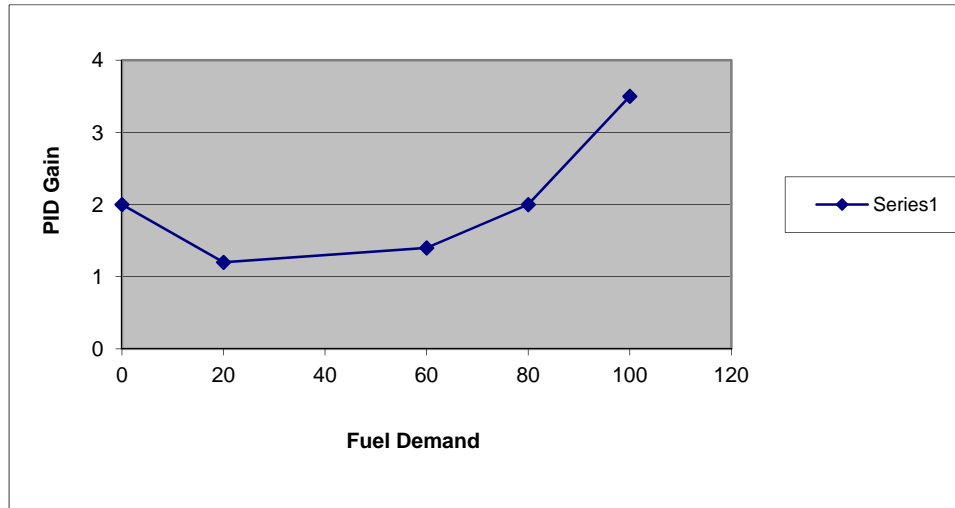

Figure 3-7. Linearized Gain Plot
Note that in both charts the valve position falls on a curve. The menu does not permit the construction of a curve. However, with four slope segments (5 break points) available, a rough approximation of the curve can be created (see Figure 3-7).
Gain settings reflect the sensitivity of the engine load to fuel demand as shown in Figure 3-7. Flat portions of the engine plot will require relatively small values of gain, steep portions of the plot will require larger gain numbers (actuator has to move a lot to pickup small amount of load).
- d. Create a plot of the system by plotting PID GAIN as a function of load. A typical result is shown in Figure 3-7.
3. Use the plot of the engine to determine the linearity of the fuel system. This curve should be linearized between inflection points as shown in Figure 3-7.